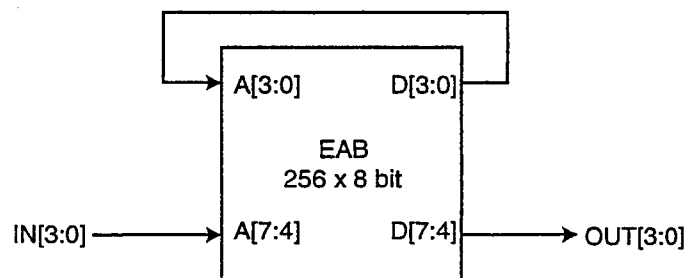

Figure 5.1
5. Figure 5.1 shows the schematic of a 4-input, 4-output finite state machine (FSM) implemented using an Embedded Array Block (EAB) in Altera's FLEX10K PLD device. The input  $IN_{3:0}$  to the FSM is one-hot encoded. The EAB is configured as a 256 x 8 ROM with registered address inputs. The contents of some of the ROM locations are shown in Figure 5.2. All the other locations contain the value 0.